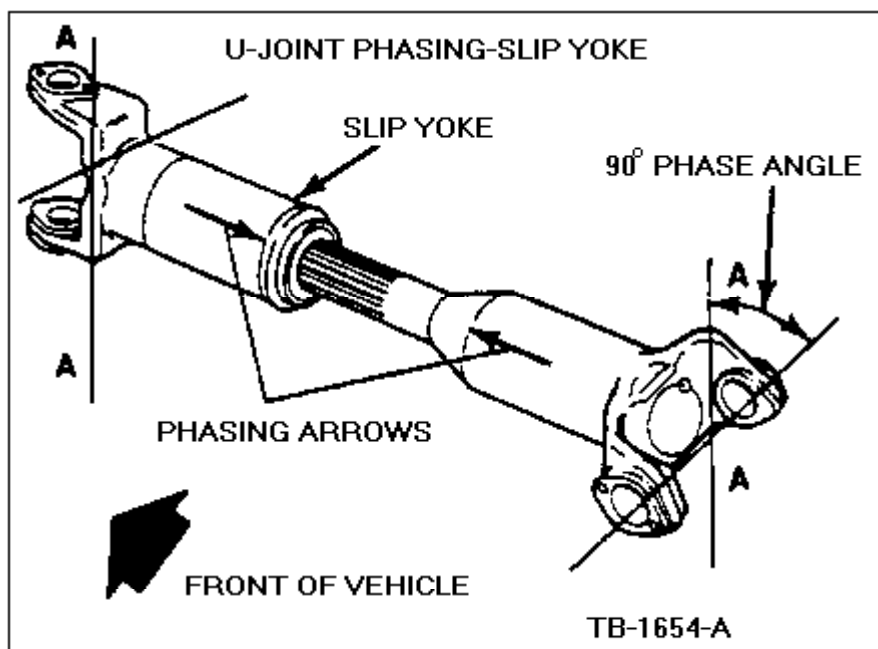

Figure 1 - Article 90-9-11
Some Ford heavy trucks are designed with "out-of-phase" 90° two (2) piece driveshafts, Figure 1. The primary reason for using the 90° phased driveshafts is to meet higher torsional acceleration demands of these vehicles.